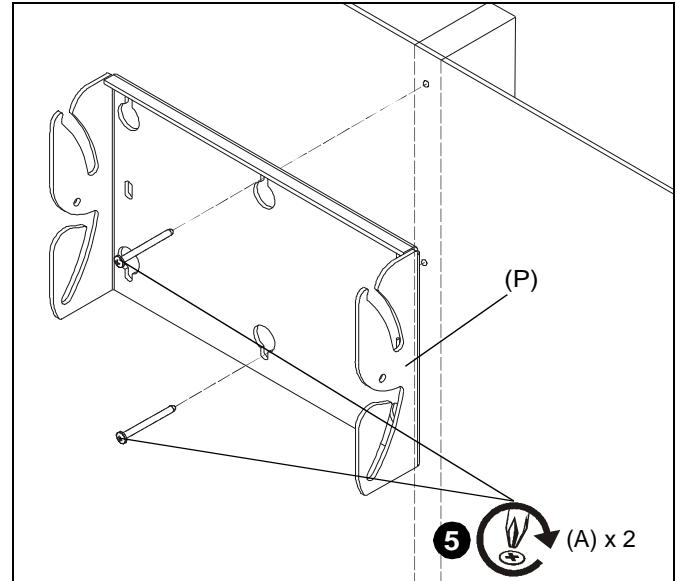

Figure 2
5. Use two #10 x 2 1/2" Phillips tapping screws (A) to secure wall bracket (P) to wall. (See Figure 2)